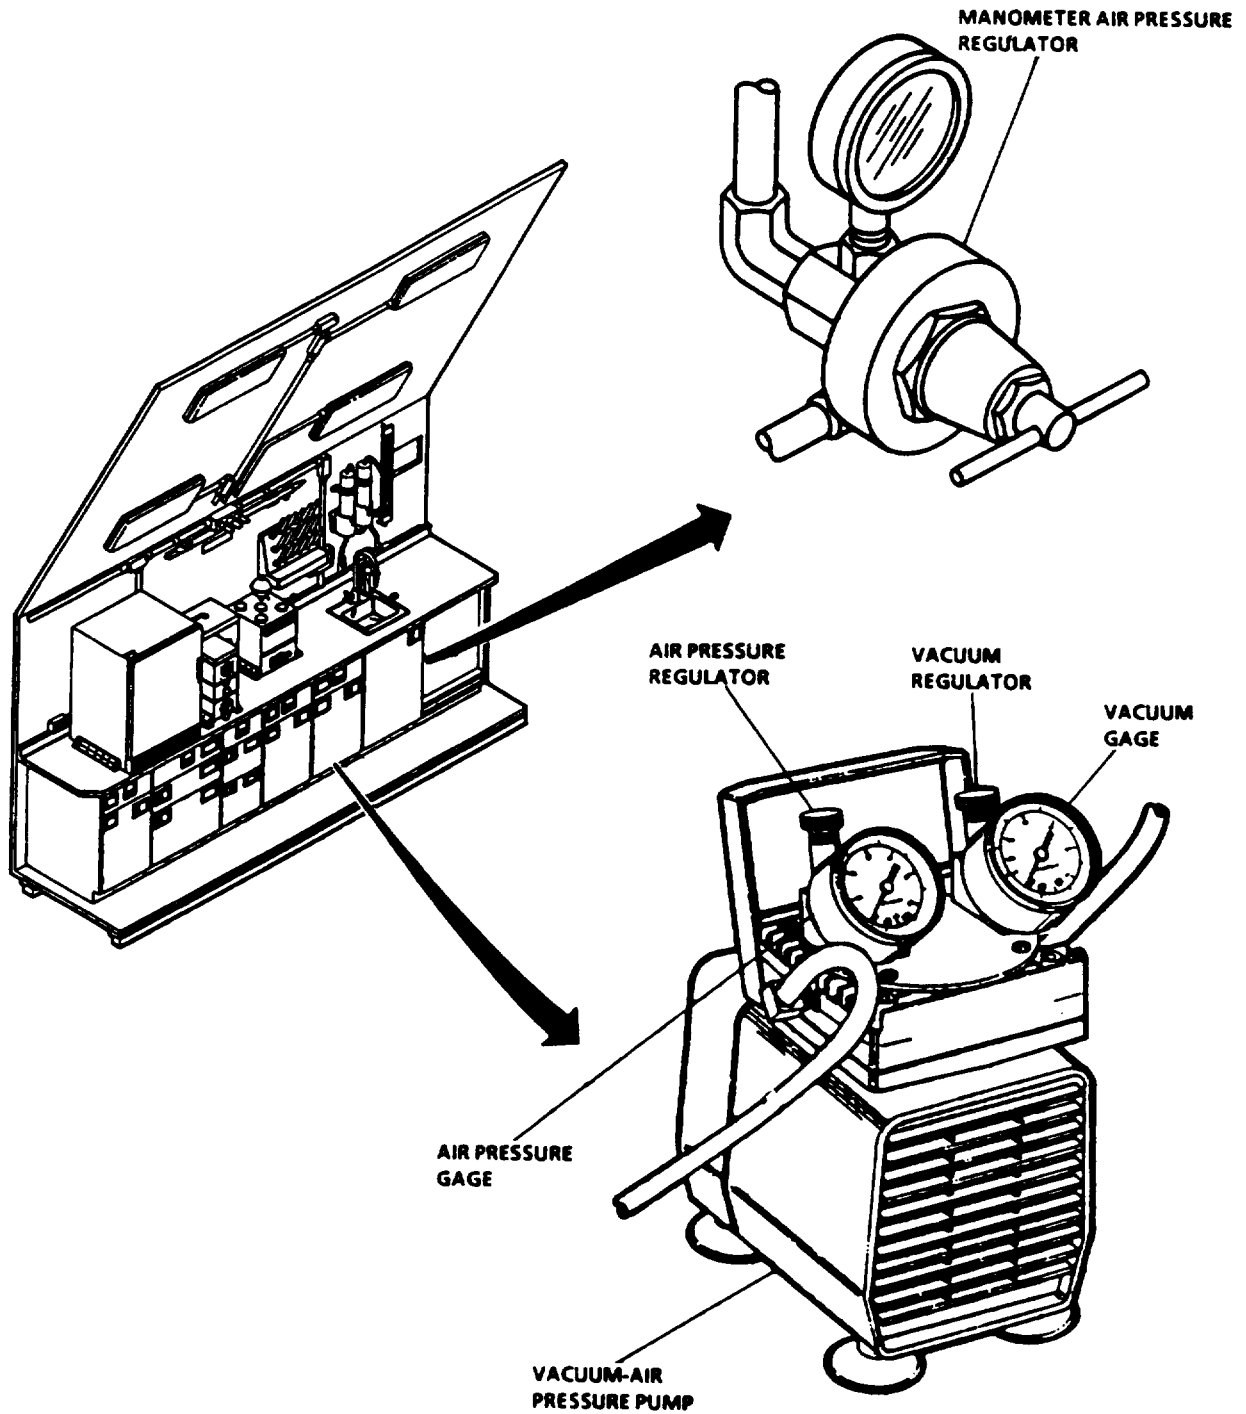

Figure 2-5. Vacuum-Air Pressure System (Cabinet No. 9)
d. Interior - Vacuum Air Pressure System Controls and Indicators (Cabinet No. 9). Figure 2-5 and Table 2-5 list the controls and indicators of the vacuum-air pressure system located in cabinet No. 9.